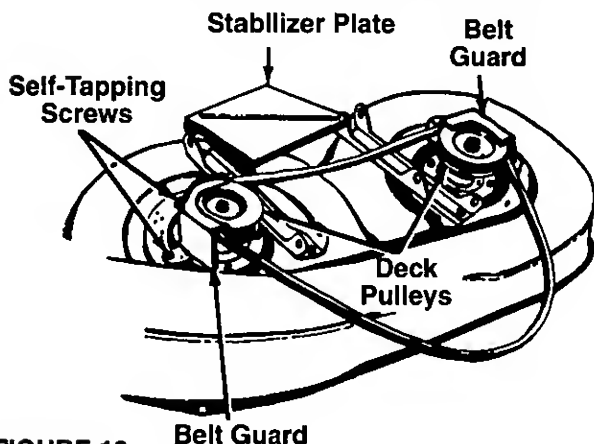

FIGURE 19.
11. Remove the belt guards at each deck pulley by removing the self-tapping screws. See figure 19.